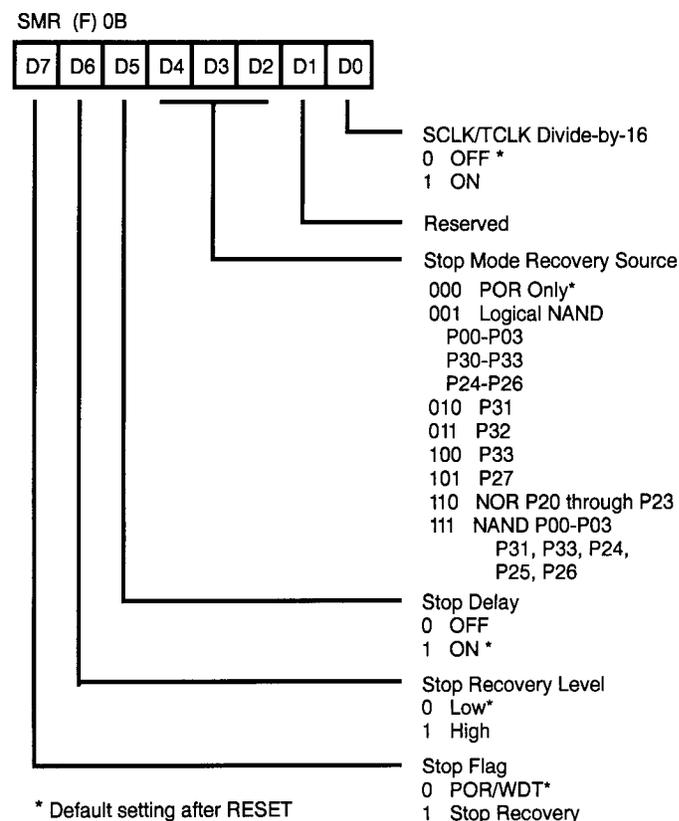

Figure 20. Stop-Mode Recovery Register
**Stop-Mode Recovery Register (SMR).** The SMR is located in Bank F of the Expanded Register Group at address 0BH. This register selects the clock divide value and determines the mode of Stop-Mode Recovery (Figure 20). All bits are Write Only, except Bit 7 which is Read Only.